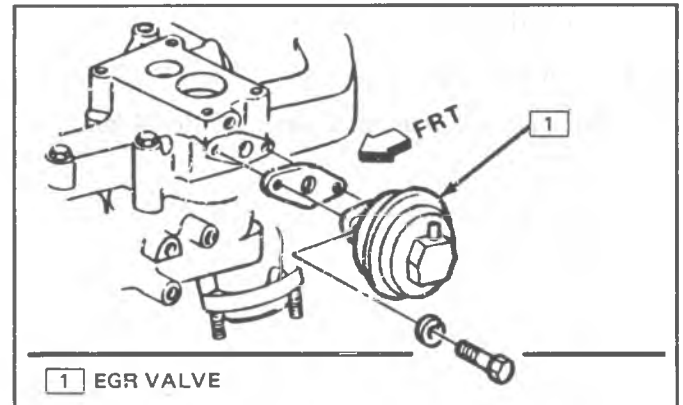

Figure 151 EGR Valve
2. EGR valve vacuum hose at valve. (Figure 151)